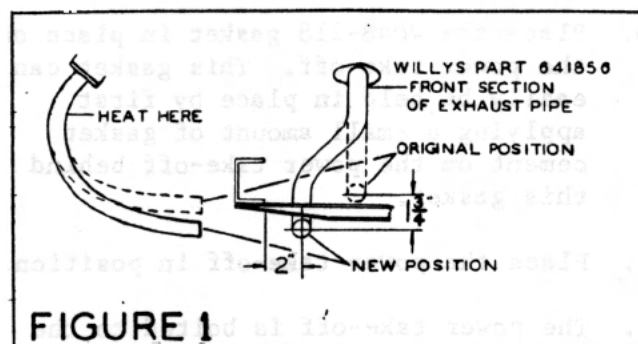
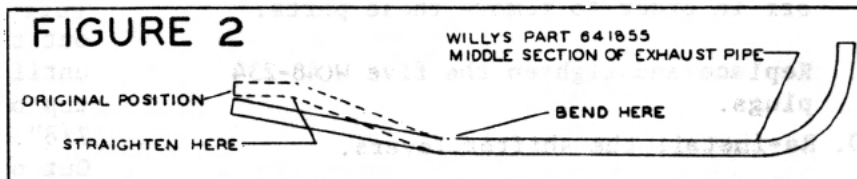

FIGURE 1
FIGURE 2
1. Exhaust pipe must be moved from above the transmission cross-member to below the transmission cross-member. Remove center section of exhaust pipe. Heat front exhaust pipe section close to manifold, and bend towards left-hand vehicle frame rail approximately  $3/4"$ . Heat this front section again in the curve, and bend down  $1-3/4"$  or until the end clears the bottom of transmission cross-member. (Fig. 1). Heat and straighten out first kink in center section of exhaust pipe. Heat and bend down at second kink in center section of exhaust pipe until this section lines up with front exhaust pipe (Fig. 2). Connect front and center sections of exhaust pipe with exhaust pipe sub (Part No. 473-12), and extra exhaust pipe clamp (Part No. 473-13), which is furnished with winch installation.